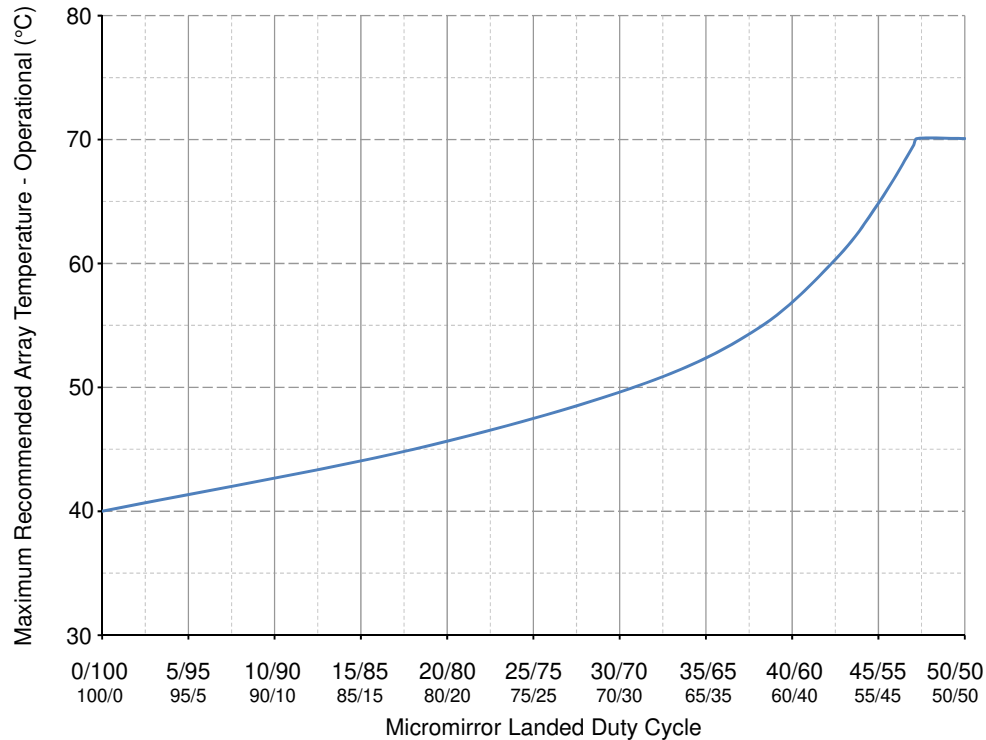

Figure 6-1. Maximum Recommended Array Temperature - Derating Curve
- (11) Per Figure 6-1, the maximum operational array temperature should be derated based on the micromirror landed duty cycle that the DMD experiences in the end application. Refer to Micromirror Landed-On/Landed-Off Duty Cycle for a definition of micromirror landed duty cycle.
- (12) Long-term is defined as the usable life of the device.
- (13) Short-term is the total cumulative time over the useful life of the device.